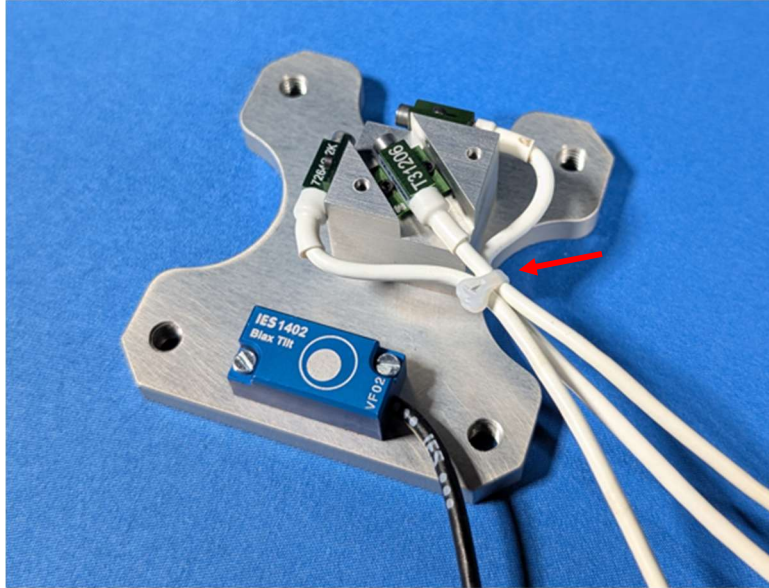

Figure 13-14. Tie-wrap for head plate instrumentation
- 13.4.1.1 After installing the accelerometers and tilt sensor on the head plate, gather the wiring from the three accelerometers and bundle with a tie-wrap, leaving enough slack so that the wires don't turn sharply from the base of each sensor and cause damage (Figure 13-14).